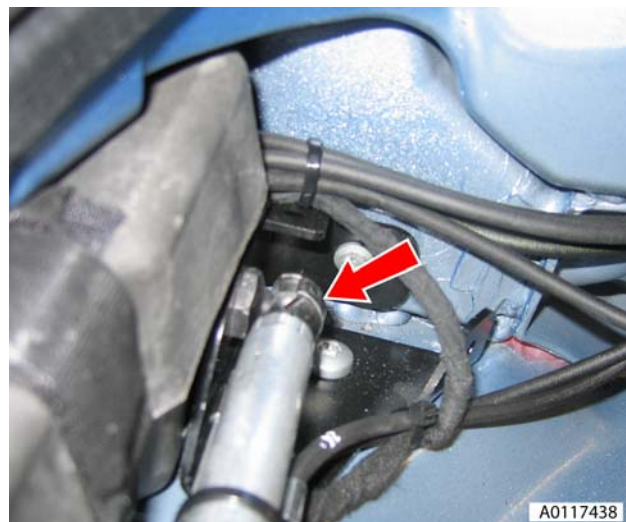

Figure 5
8. Release cylinder lower retaining clip and disconnect cylinder from body (see Figure 5).